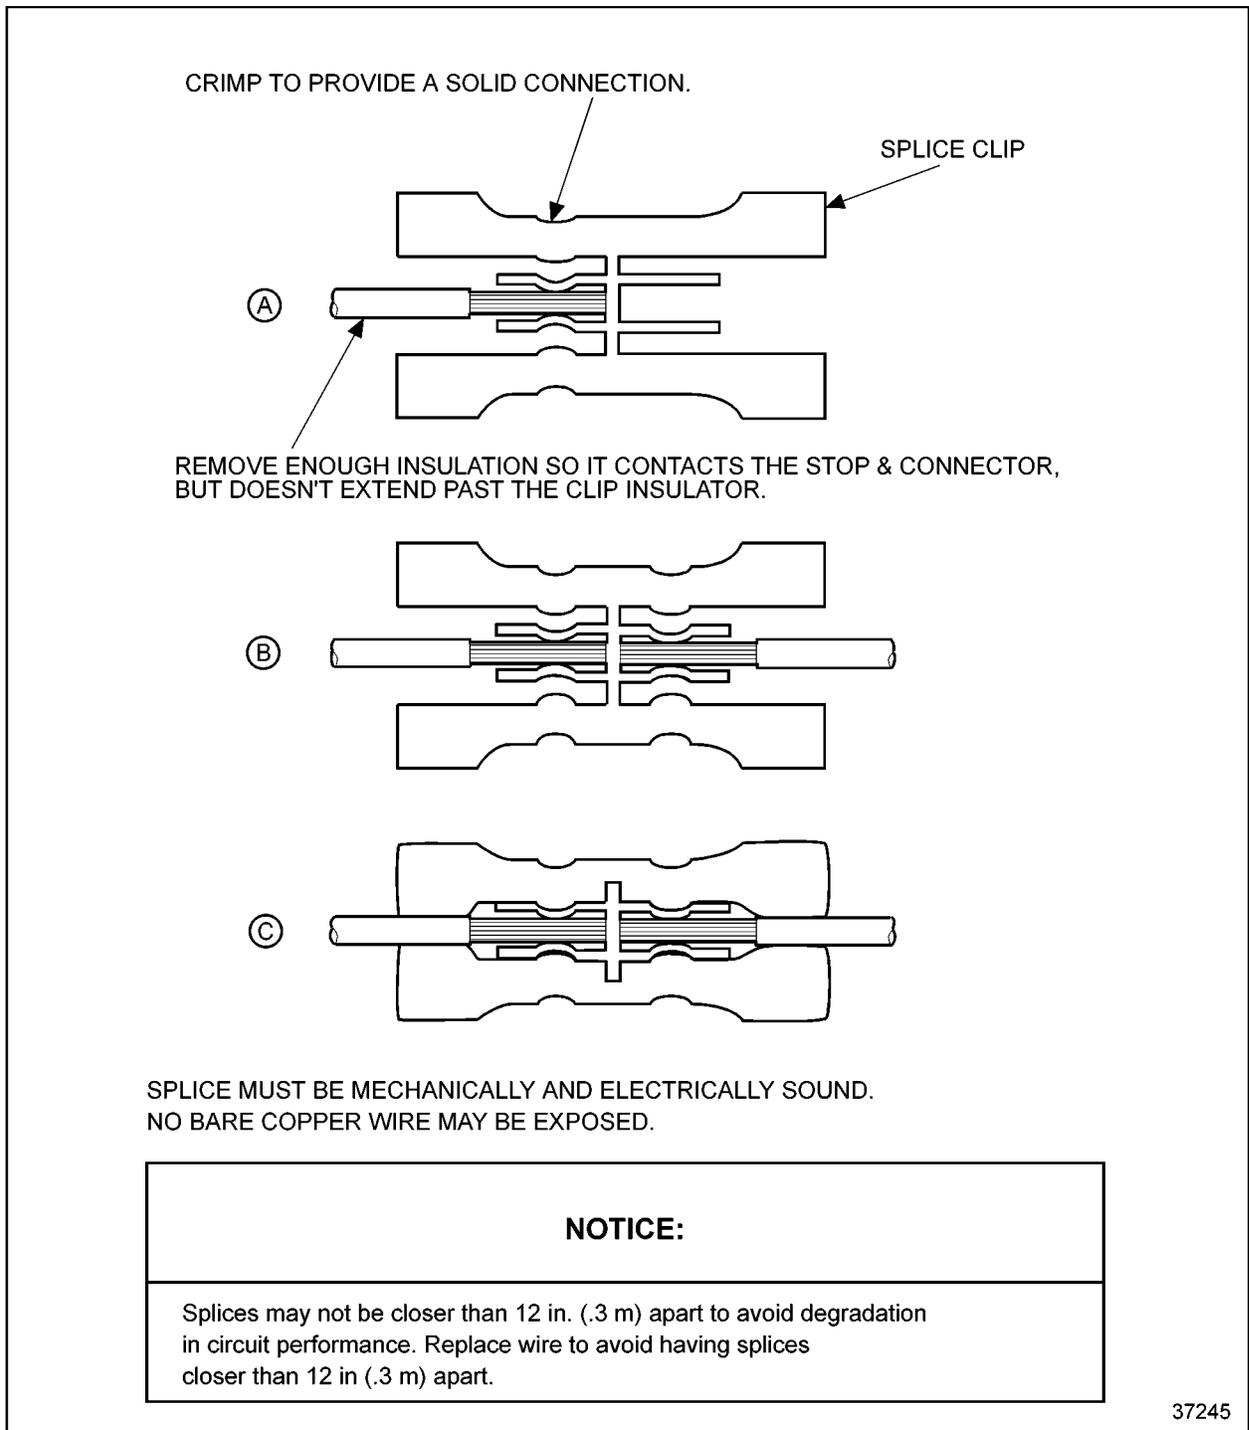

Figure 3-62 Splicing Straight Leads - Alternate Method 1
3. Insert one wire into the splice clip until it butts against the clip. Stop and crimp (see Figure 3-62, A).
4. Insert the other wire into the splice clip until it butts against the clip stop (see Figure 3-62, B).
7. Shrink the splice clip insulative casing with a heat gun to seal the splice (see Figure 3-62, C).